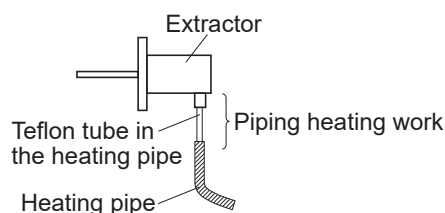

Fig. 5-5
- (4) When using the heating pipe, perform heating work or thermal insulation treatment as required (Fig.5-5). Otherwise, condensation may be caused at the outlet of the extractor.